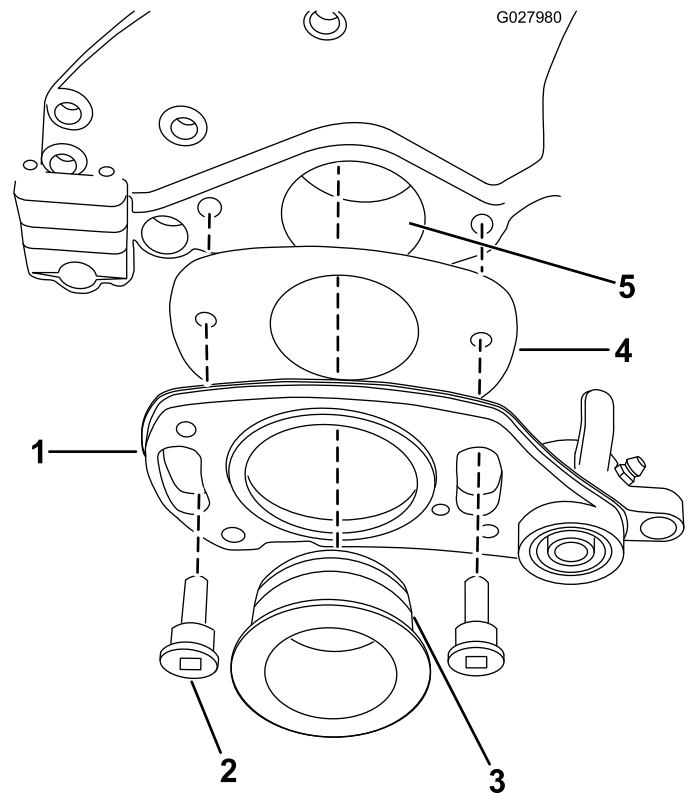

Figure 7
12. Slide the shim plate onto the rear of the right drive assembly as shown in Figure 7.
13. Put a light coating of grease on the O-ring and the pilot bore (Figure 7).
14. Secure the drive assembly using 2 shoulder bolts as shown in Figure 7.